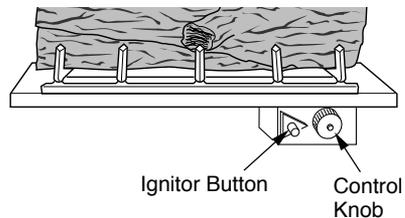

Figure 28 - Control Knob and Ignitor Button Location
3. Turn control knob clockwise  to the OFF position (see Figure 28).
4. Wait five (5) minutes to clear out any gas. Then smell for gas, including near the floor. If you smell gas, **STOP!** Follow "B" in the safety information, column 1. If you don't smell gas, go to the next step.
5. Turn control knob counterclockwise  to the PILOT position. Press in control knob for five (5) seconds (see Figure 28).